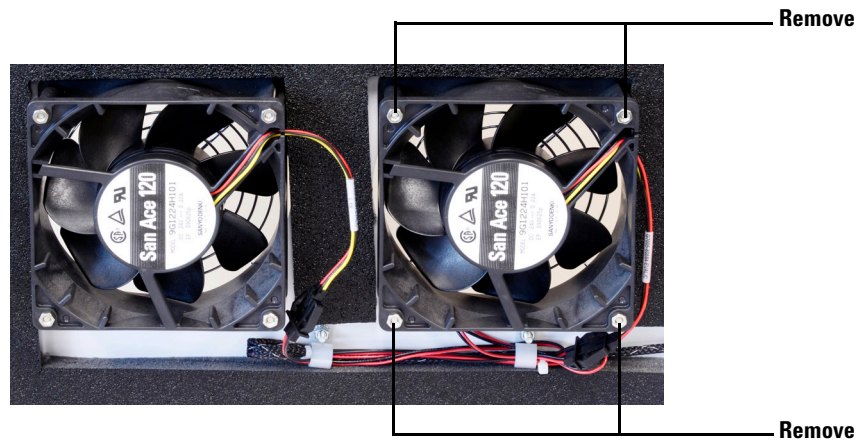

Figure 7 Removing the fan (G6011A)
- 3 Remove the four screws and nuts from the faulty fan (see Figure 7).